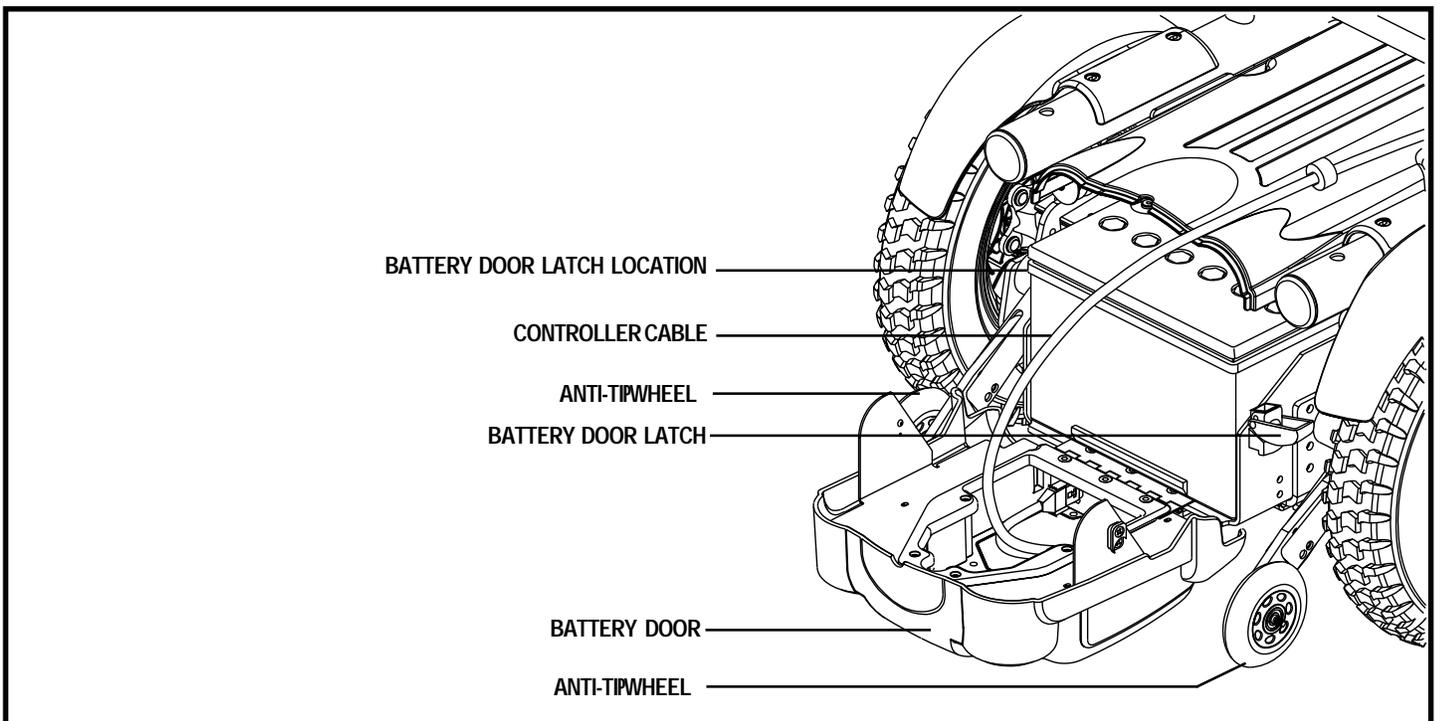

Figure 7. The Quantum R-4000 Series Power Base (Rear View - Battery Door Down)
7. Open the battery door latches and open the battery door. See figure 7.